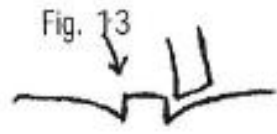

Fig. 13
9. Planish to blend in leaf. (Fig. 13)